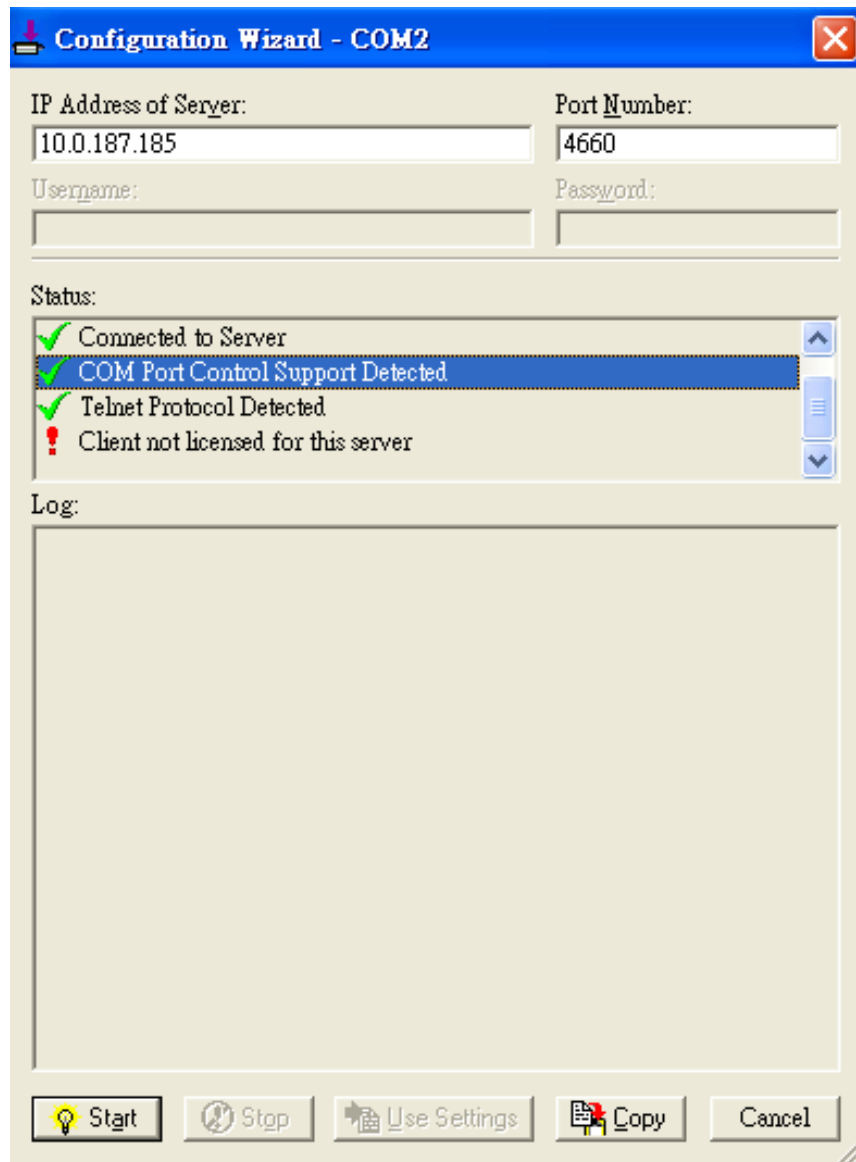

Figure 6.13 Licensing Issue of Serial/IP Utility Software
- If the status reports with a check with a message “**Telnet Protocol Detected**” and an exclamation mark with a message “**Client not licensed for this server**” as shown in Figure 6.13. This means that there is a licensing issue between the serial gateway (i.e. SE59XX) and the Serial/IP Utility Software. Please contact Atop technical support to obtain the correct VCOM software.